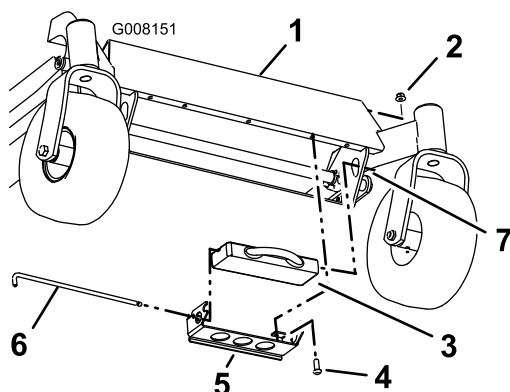

Figure 4
1. Attach the weight support assembly to the front panel foot rest with two hex button-head screws (3/8 x 1 inch) and two lock nuts (3/8 inch) as shown in Figure 4.
2. Insert the weight onto the weight support assembly (Figure 4).
3. The lock rod (Figure 4) has a key on one end. Slide the lock rod through the weight support assembly, notch in the weight and the oval hole in the frame bracket.